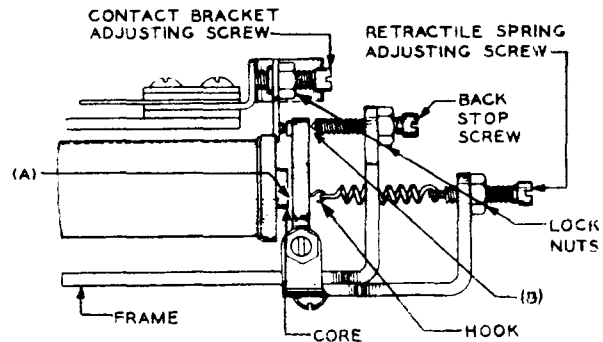

Fig. 4 - Separation Between Armature Disc and Backstop Screw - Armature Operated
2.10 Unoperated Armature Gap: Fig. 4(A) - With the armature against the backstop screw, the gap between the surface of the armature and the cores, measured separately between the nearest point on each core and the armature shall be
2.11 Separation Between Armature Disc and Backstop Screw: Fig. 4(B) - With the relay electrically operated, the separation between the armature disc and the backstop screw shall be